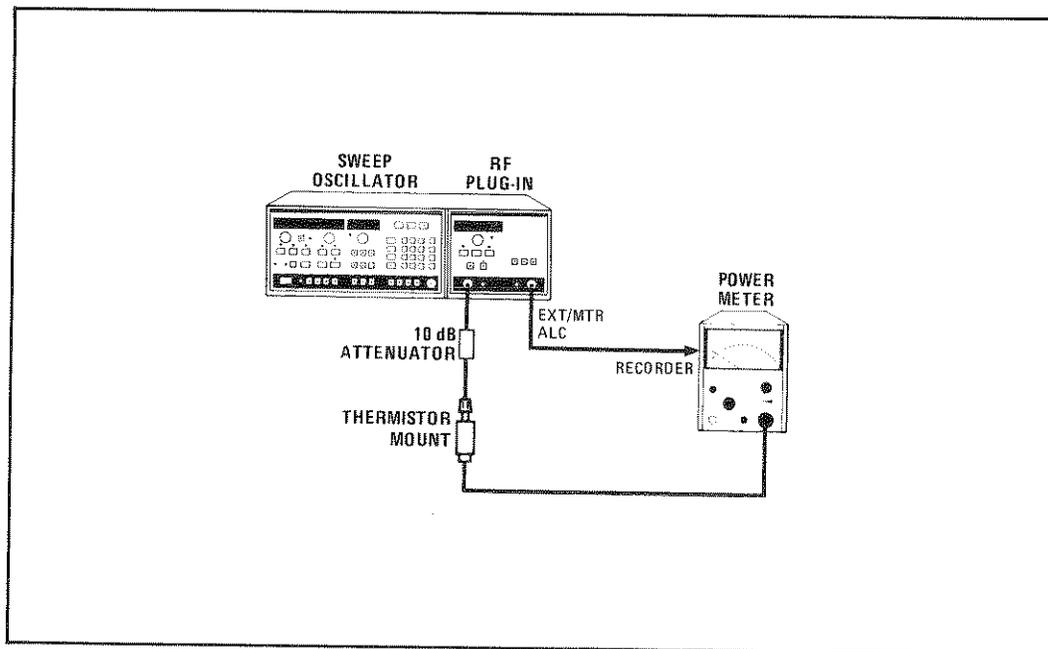

Figure 8-26. Power Meter Leveling Setup
- Attempt to level the power externally using the HP 432 Power Meter as shown in Figure 8-26. Select MTR leveling, and enter a slow (at least 30 seconds) sweep time. If the RF power is now leveled then the failure is most likely in the detectors or the Detector Selection Switch, A4U6. Refer to the following paragraph. If this does not prove to be the case, the problem may be in the two analog switches U4B and U6A; or it may be necessary to perform the ALC adjustments in Section V of this manual.